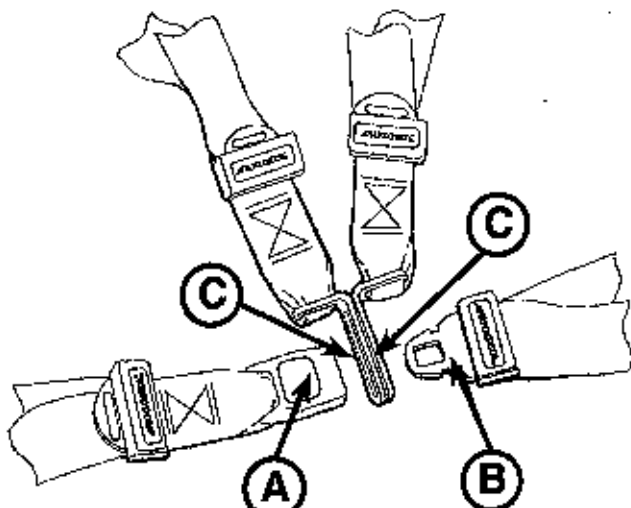

Figure 70
- To open the restraint, press the red button (A) on the front of the buckle "receiver". This releases the buckle latch plate (B) which can then be pulled out of the receiver (Figure 70).
- To close the restraint, push the latch plate into the receiver until a "click" is heard. When fastening the chest restraint ensure that the latch plate passes through both links (C) on the shoulder strap (Figure 70).